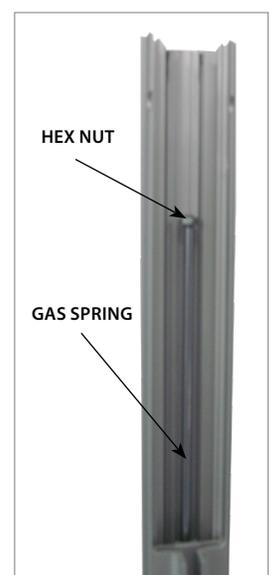

Figure 44
3. Remove the **TOP PLATE** and slide out the **VESA PLATE** to reveal the **GAS SPRING** underneath. Replace the **GAS SPRING** with the new **GAS SPRING**. Ensure that there is a **HEX NUT** on the thin side of the replacement **SPRING** and the **NUT** is facing up (Figure 44).